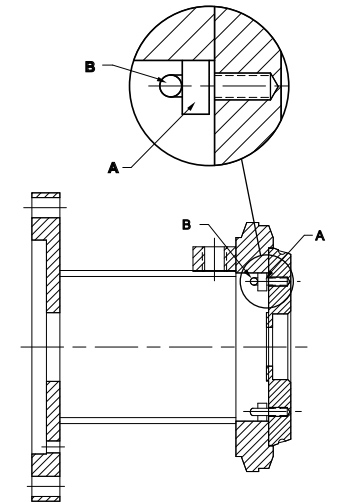

Figure No. 5
- a. Place the back plate assembly onto the adapter. Put even pressure down on the back plate until it is completely seated on the adapter. see figure no.5)